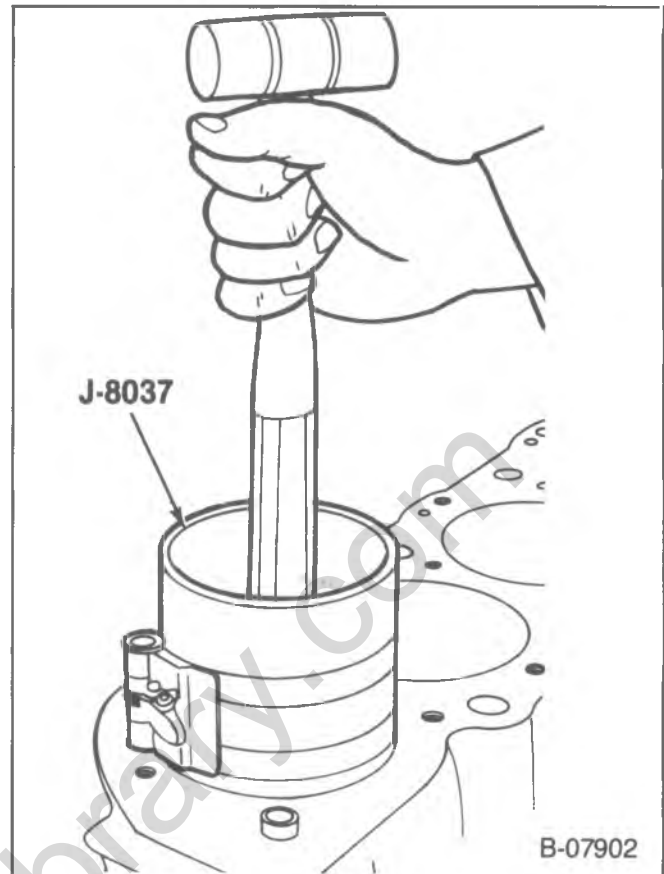

Figure 29—Installing the Piston and Connecting Rod
- Without disturbing the ring end gap location, install J-8037 over the piston (figure 29).
- Place the piston in its matching bore. Using light blows with a hammer handle, tap the piston down into its bore (figure 29). At the same time, from beneath the vehicle guide the connecting rod to the crankpin with the pieces of hose (figure 27). Hold the ring compressor against the block until all rings have entered the cylinder bore.